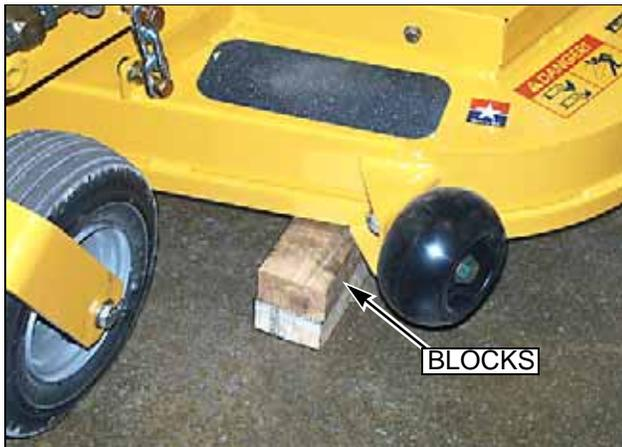

FIG. 71
3. Raise deck and place 3" of blocking under all 4 corners of the deck (FIG. 71). This will set the cutting height at 3 ¼". **NOTE:** Back of deck will automatically be set ¼" higher.